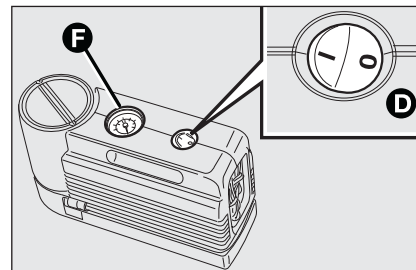
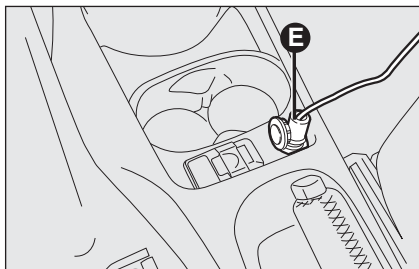

fig. 14
fig. 15
- make sure that switch **D-fig. 14** of the compressor is in position **0** (off), start the engine, plug into the socket **E-fig. 15** and operate the compressor turning switch **D-fig. 14** to position **I** (on). Inflate the tyre to the pressure specified in the "Inflation pressure" paragraph, "Technical Specifications" chapter.
For a more accurate reading, check pressure gauge **F-fig. 14** with the compressor off;